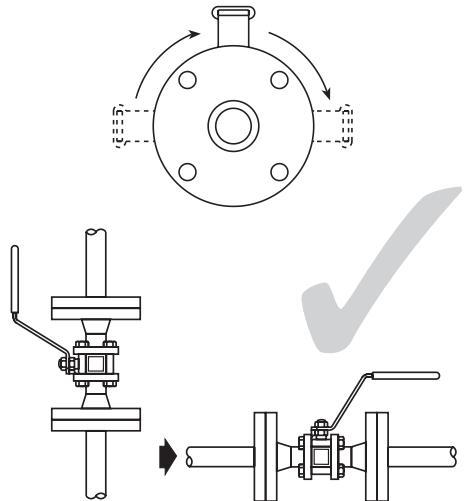

**Fig. 2 Incorrect installation for liquid service**
**Do not mount the valve upside down for liquid service (Figure 2).**